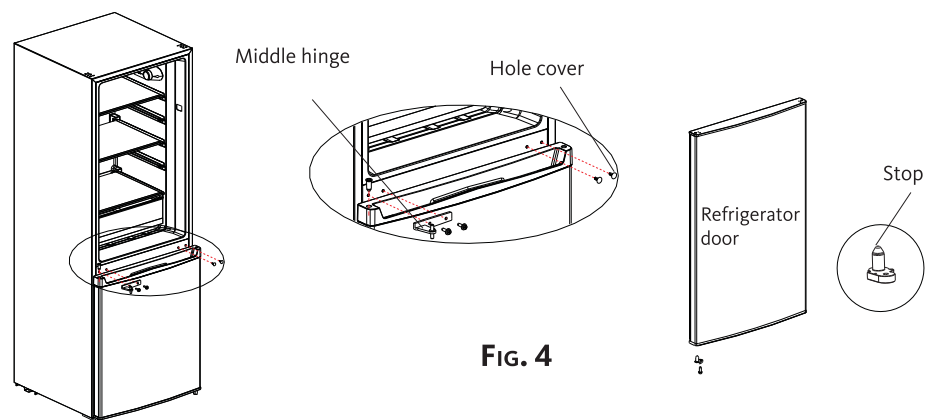

FIG. 4
5. Put the freezer compartment door back on by pressing it against the appliance. Put the middle hinge and the hole covers back on (fig. 4). Be sure to align the door with the
appliance. Remove the stop under the refrigerator compartment door (fig. 4) and fit the stop provided in the accessory bag on the other side.